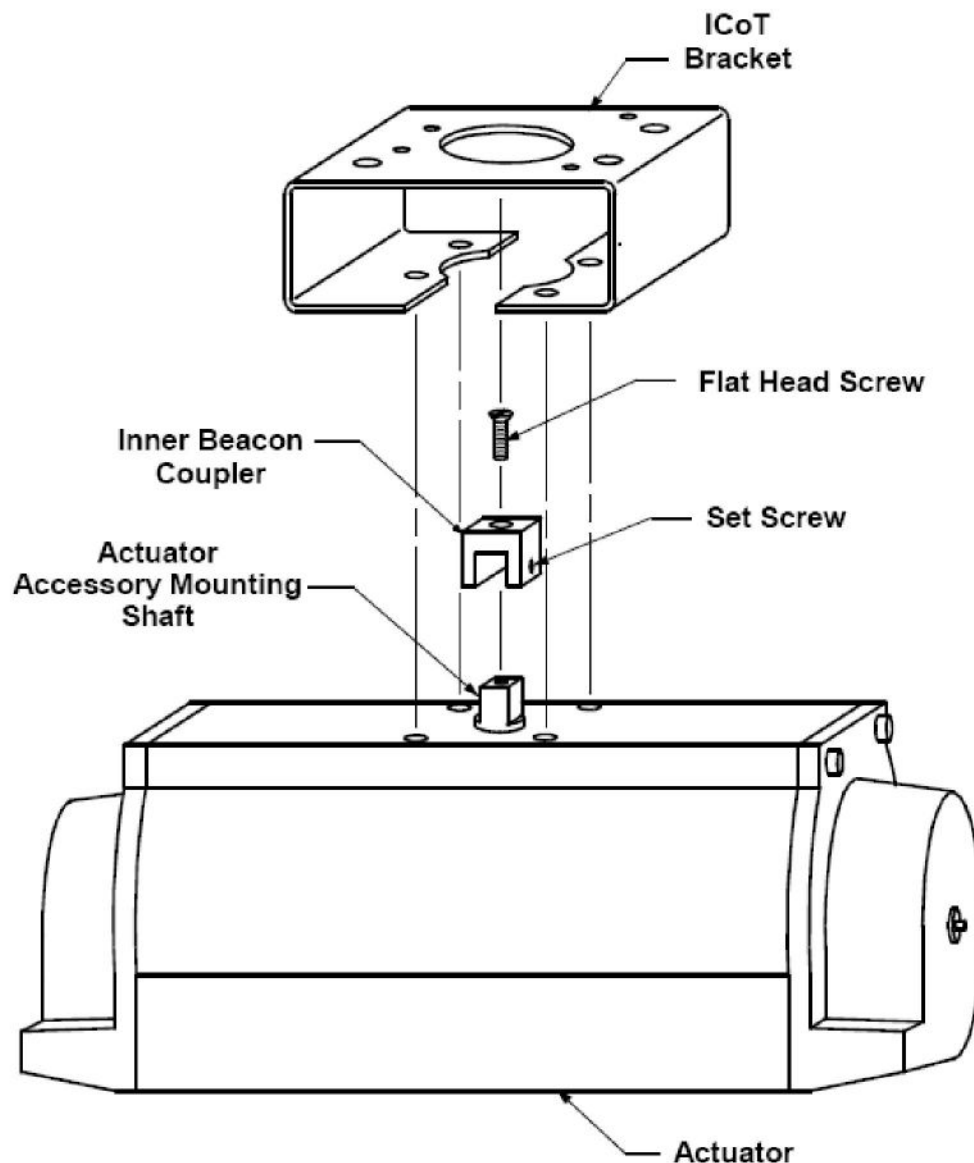

Figure 3-1
Step 1. Mount bracket and inner beacon coupler to actuator. If actuator shaft has a tapped hole, fasten using proper flat head screw. If actuator does not have a tapped hole, fasten using set screws on side of coupler. (See Figure 3-1)